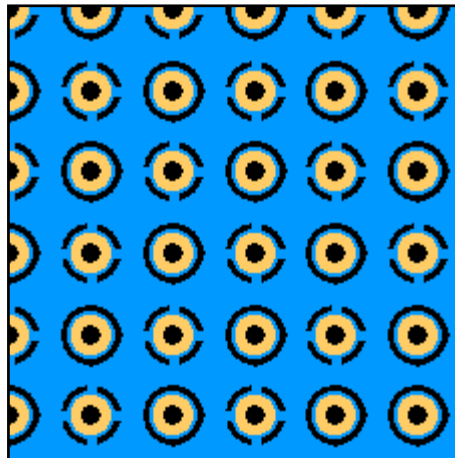

Figure 4-16: Via-in-pad pattern with ground plane on mount layer
- If you have a ground or power plane on the BGA mount side, the fanout via pads allow a continuous plane fill under the BGA. See Figure 4-16.